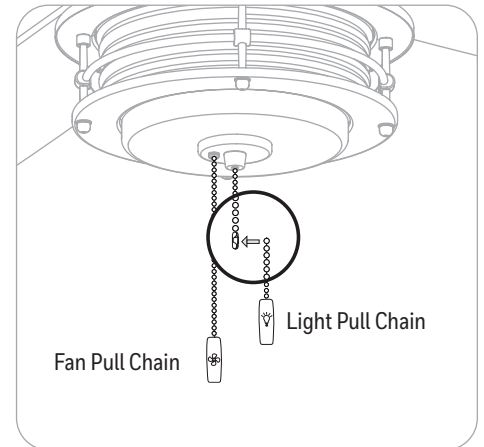

Figure 5.12
12. Attach pull chain extensions to the pull chains. **Note:** The pull chain in the center of the light kit controls the light (Figure 5.12).